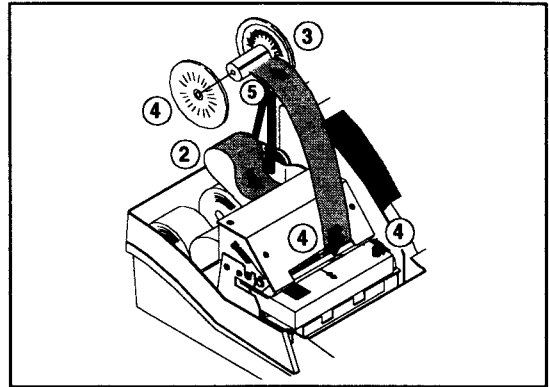

Figure 4-7. Inserting the Journal Paper
4. Insert the journal paper into the slit ③ of the rewind spindle. Wind the spindle three or four times.
5. Push end disk ④ onto the spindle as shown in Figure 4-7.
6. Insert the spool to the printer part ⑤.